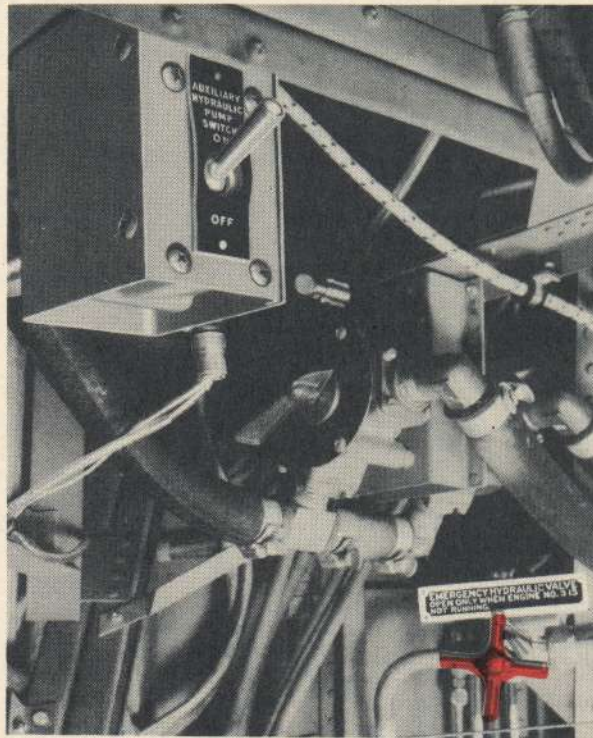

Figure 33—Emergency Hydraulic Valve, Auxiliary Hydraulic Pump Switch
**d. FAILURE OF ENGINE NO. 3.**—Same as for other engines except that the engine-driven hydraulic pump is located on engine No. 3. In the event of failure of this engine, turn "ON" the auxiliary electric hydraulic pump switch, located to the right of the forward entrance to the bomb bay, and "OPEN" the emergency hydraulic (star) valve, located outboard of the pump switch. (See figure 33.)